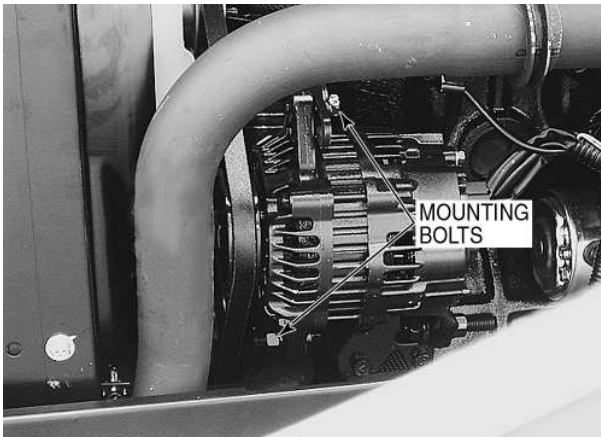

Figure 63 - Alternator Mounting Bolts
1. Loosen the alternator mounting bolts, Figure 63.